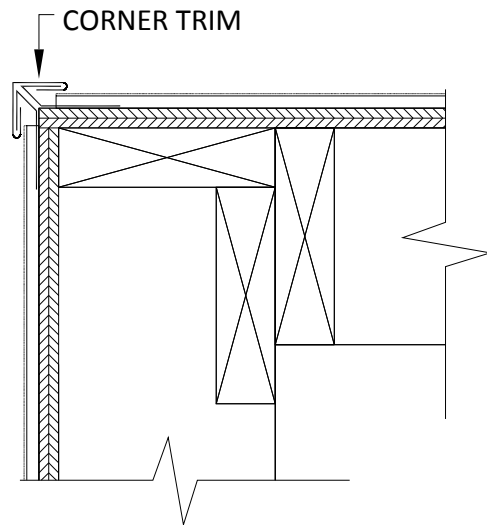

Fig. 2 - Outside Corner (Flashed)
1. Work should begin with installation of pre-fabricated corner panels or with standard panels that will butt or miter into the corners. This is typically the most visual location and the corners should not be cut unless absolutely necessary. Refer to fig. 2,3,4 for corner detail.